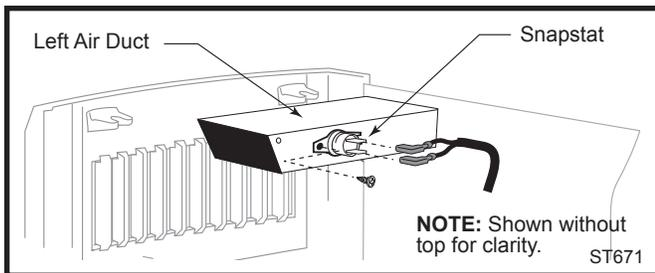

Fig. 11 Install the snapstat and connect the extension wire terminals. View is with top removed, however, access is available through the grille opening.
6. Install the snapstat by loosening the front screw on the inner side of the duct. (Fig. 11) Slide the snapstat under the head of the screw and tighten. Connect the leads to the snapstat. Make sure the snapstat assembly is mounted straight front to back.